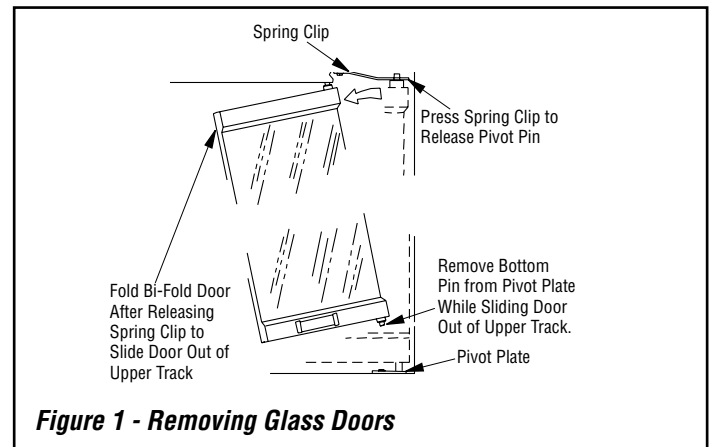

Figure 1 - Removing Glass Doors
1. Remove glass doors (if equipped) by following the instructions shown in *Figure 1*.